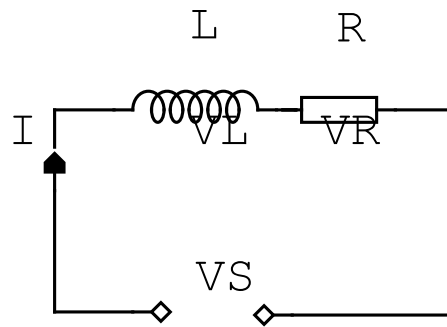

Figure 5.35: Resistive inductive circuit
Figure 5.35 is a circuit consisting of a resistor and an inductor connected in series. Remember that since it is a series circuit the same current (I) flows through both components. The pd across the resistor is the product of the current and the resistance of the resistor (IR) and that of the inductor is the product of the current and the inductive reactance of the inductor (IX_L).